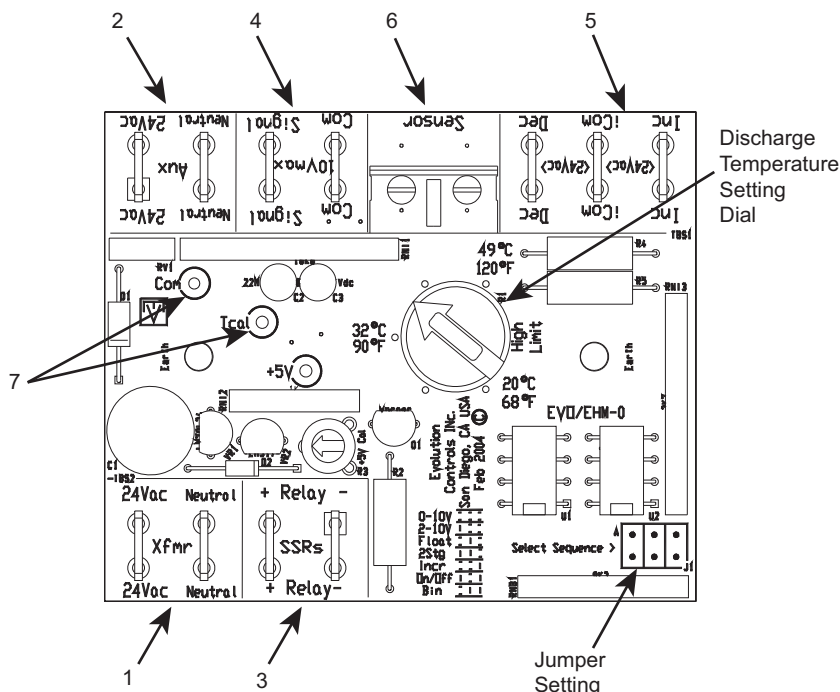

Fig. 15 — EHM Control Board
The Proportional SSR Heat board can be controlled and operated in 7 different ways. The units are ordered with an LXY code, where X is coded for unit power and Y is coded for the application (1-7). This Y application can be changed in the field. The application desired is chosen by placement of jumpers in the corner of board (see Fig. 15). The jumper settings shown in Table 9 represent the pins at the bottom corner of the control board as shown in Fig. 15. See Fig. 16-22 for application wiring diagrams.
See Fig. 15. The EHM control board is powered by 24 vac (Fig. 15, item 1) from the transformer in the electric heater. The EHM has auxiliary 24vac outputs (Fig. 15, item 2) that can be used to power the unit's electrical controls. Next to the "Xfmr" inputs are the "+" and "-" relay connections (Fig. 15, item 3) that control the solid state relays by sending pulses of ~25 vdc.
There are two terminations to use for dc volt control (Fig. 15, item 4) of the electric heat (applications LX3 and LX4). These are polar sensitive. The "+" signal from the controller must be connected to "Signal" on the EHM Control Board. The "-" from the controller must be connected to "Com" next to "Signal" (**not** "iCom"). A termination to "-" is possible, but not necessary, to measure mA signals to the board.
There are three terminations for 24 vac control (Fig. 15, item 5) of the electric heat (applications LX1, LX2, LX5, LX6, and LX7). "Inc" is for the increase signal in applications LX5 and LX7, as well as the first stage heat signal in applications LX1, LX2, and LX6. "Dec" is for the decrease signal in application LX7, as well as the second stage heat signal in applications LX2 and LX6. A connection to "iCom" is necessary for all of these 24 vac applications. If the unit's controller does not have a common output, a jumper to the correct "Aux" terminal can be used. If the unit controller outputs the "24vac" side from its input power, a jumper should be made from "Neutral" to "iCom" (see sample schematic, Fig. 23). If the unit controller outputs the "Neutral" side of its input power, a jumper should be made from "24vac" to "iCom".
Neither the jumper settings nor the controls wiring needs to be changed when this option is installed. The EHM control board will detect if a sensor has been connected, and it will adjust the control function accordingly. The sensor wires are connected to the screw terminals at the Sensor (Fig. 15, item 6) location on the
The desired discharge temperature is set by rotating the discharge temperature set point dial arrow to the maximum outlet temperature desired. To fine-tune the discharge temperature set point, connect the positive and negative leads of a multimeter to Tcal and Com (Fig. 15, item 7), respectively, on the EHM. Then place a jumper between the two screw heads on the sensor termination. Rotate the discharge temperature set point dial until the desired voltage per temperature is obtained. See Table 10. After the voltage is obtained, the EHM board must be reset. To reset the board, remove the jumpers and then place back in correct position.
- a. If using applications LX3 and LX4, confirm the positive vdc connection is wired to the "Signal" terminal, and the negative vdc connection is wired to the "Com" terminal. See Fig. 15.
- b. If using 24vac, confirm the wires are terminated correctly at (5) with a connection at "iCom". See Fig. 15. If an "Aux" terminal (Fig. 15, item 2) on the EHM has been jumpered to "iCom", make sure that the opposite 24vac input is output at the controls (see Fig. 23 for one example).